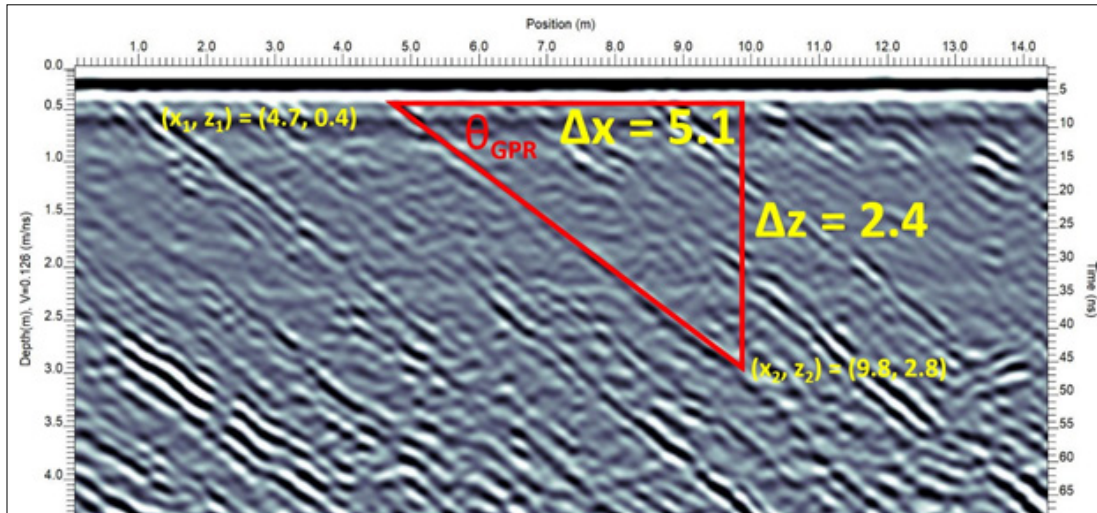

Figure 3: Example of calculating the true dip from the slope on a GPR cross-section.
resolution CONQUEST® 100 GPR system (Figure 1). Each corner was scanned by combining two 24 x 24 inch grids into a 48 x 24 grid to cover 8 square feet (Figure 2). For two cornerstones (NW and SW) he surveyed both visible sides, but was able to only cover one side of remaining cornerstone (SE). Unfortunately, no potential target was detected at the first two corners on the south side of the building, which were the easiest to access. At the harder-to-access northwest corner, he detected a GPR anomaly that he attributed to either being an object or cavity within the sandstone cornerstone (Figures 3 and 4). After processing the grid scans into depth slices, in real time, right on the CONQUEST®100, the dimensions of the anomaly closely matched the dimensions of the time capsule from 1867 (Figures 3 and 4). Post-processing was done to produce a 3D volume render of the object (Figure 5).
Figure 3: (Top) 5 - 6 inch depth slice overlaid on a schematic of the NW Corner facing Broadway Street of the Jackson County Courthouse, showing the possible location of the time capsule with estimated object dimensions and depth. (Bottom) Photo of the northwest cornerstone showing the potential location (red star) of the time capsule.